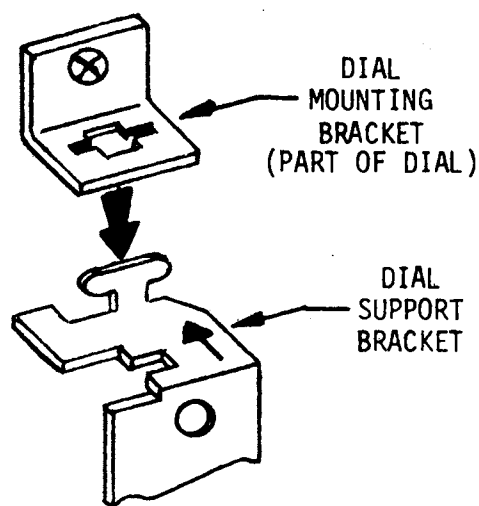

Figure 4.3
4.14 To install the dial, plug the DTB board into connector 'T' on the EAU-1C board. Plug the DTB board in with the terminals toward the front of the telephone set (refer to Figure 2.2). The dial is then mounted by placing the slots of the dial mounting brackets over the tabs of the support brackets and sliding the complete dial assemble to the left (in the direction of the arrow on the support bracket). Refer to Figure 4.3.